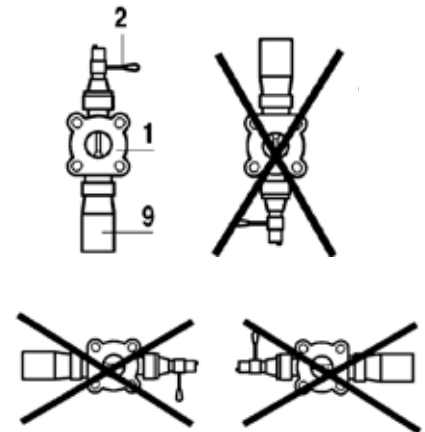

FIG. 7
6.1.2 Installation position of the Sapro-aseptic sampling valve (see fig. 7)